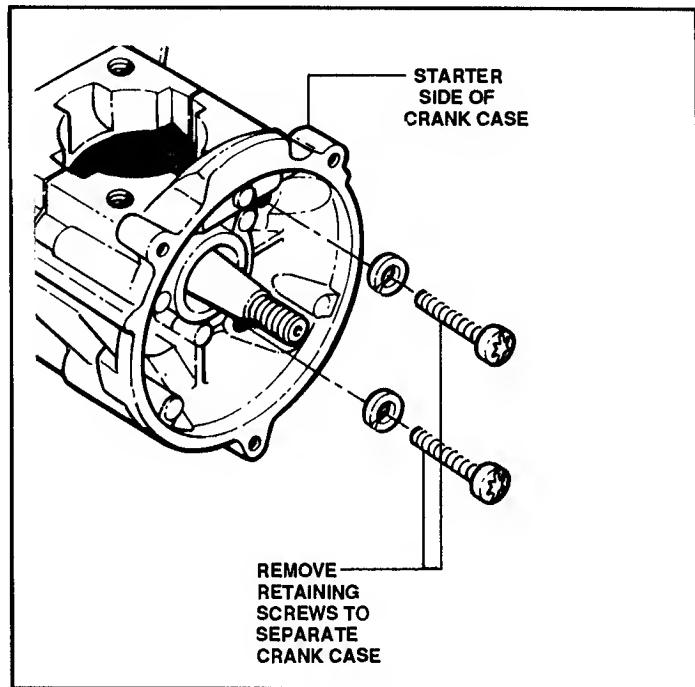

FIGURE 34
- To separate the crankcase halves, remove the four retaining screws located on the starter side of the case. See Figure 34.